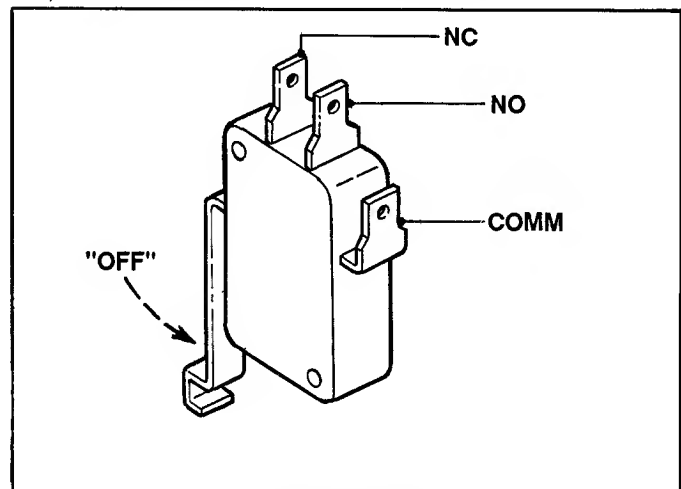

FIGURE 3.12
1. Disconnect wire connectors from terminals. See Figure 3.12.